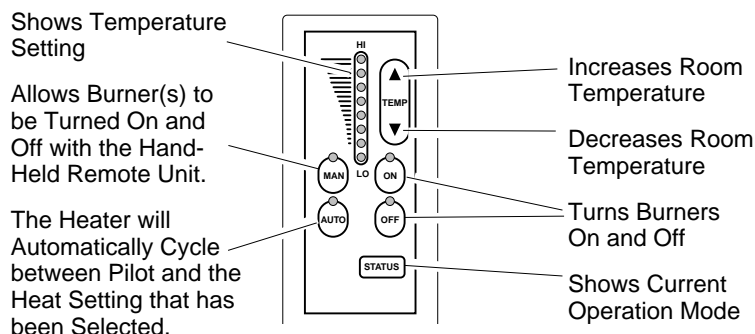

Figure 52 - Hand-Held Thermostat Remote Control Unit Selections (GHRCT)
2. Select the MAN (manual) or AUTO button on the hand-held remote control unit (see Figure 52).